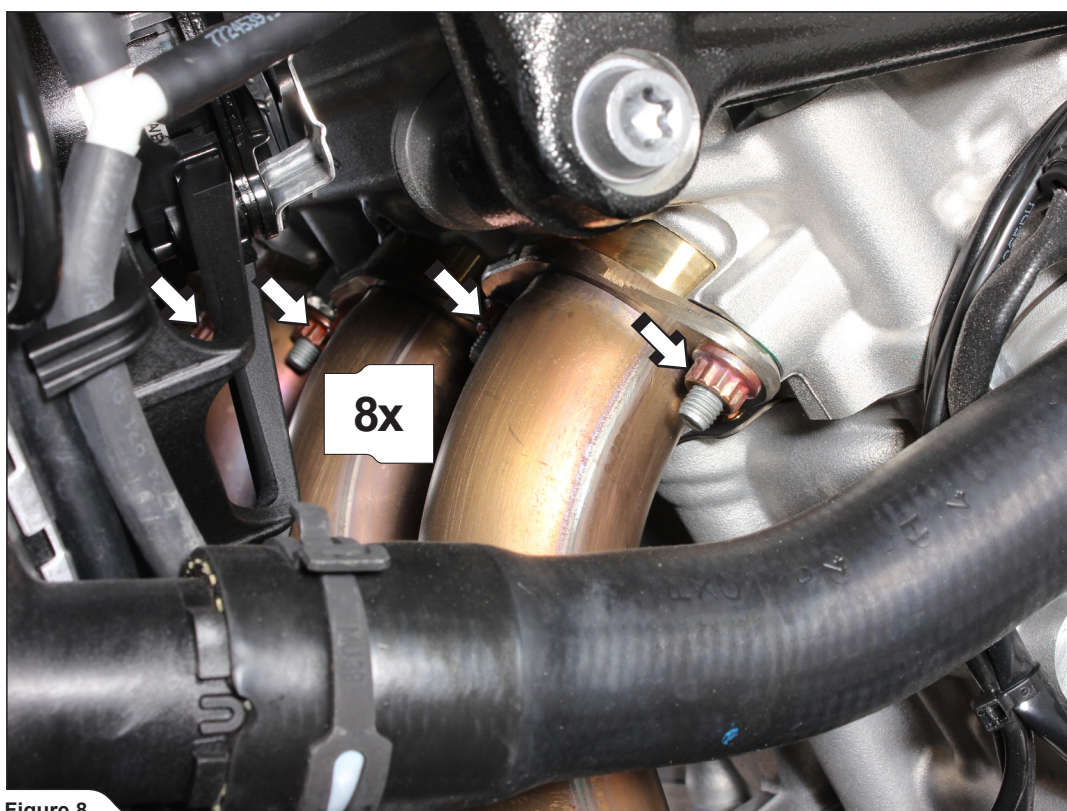

Figure 8
8. Unscrew all flange nuts (Figure 8).